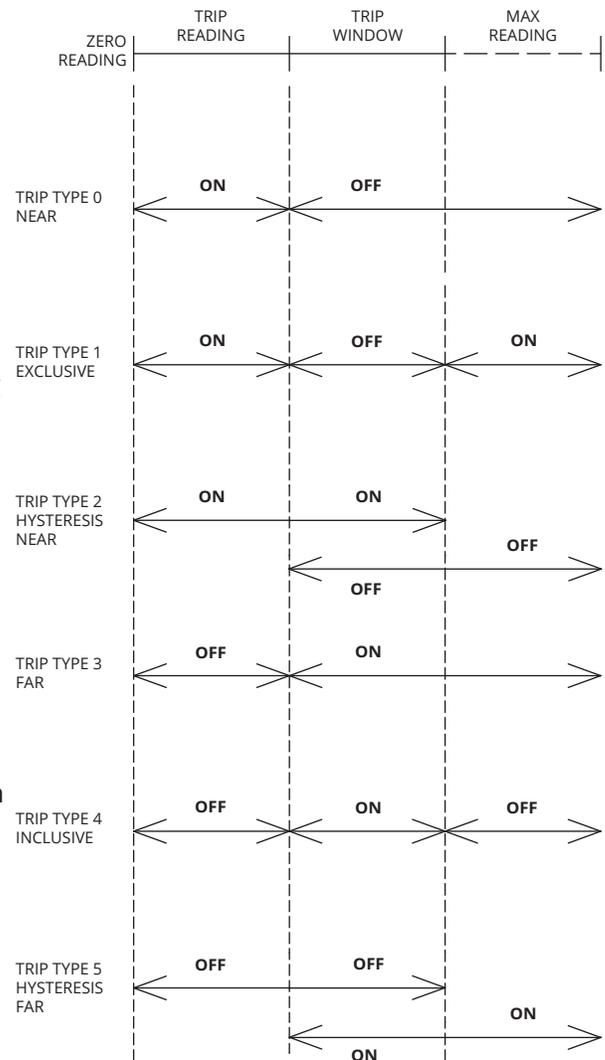

Figure 6.1
*T1TYPE* (40428-40429) sets the slave sensor reading for the primary trip position, which is closest to the Zero Reading, for Trip 1. (See Figure 6.1)
*T1WIN* (40430-40431) sets the slave sensor reading for the secondary trip position, which is further from the Zero Reading, for Trip 1. (See Figure 6.1)